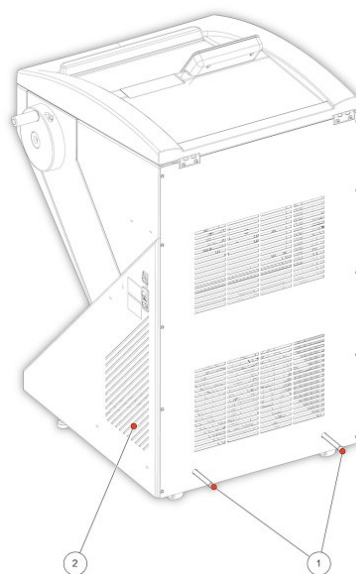

Fig 2
- The distance between the wall and rear panel is approx. 15 cm. For this, install the distance bolts (fig 2) (item 1).
- The suction vent areas on either side are kept free (fig. 2) (item 2).